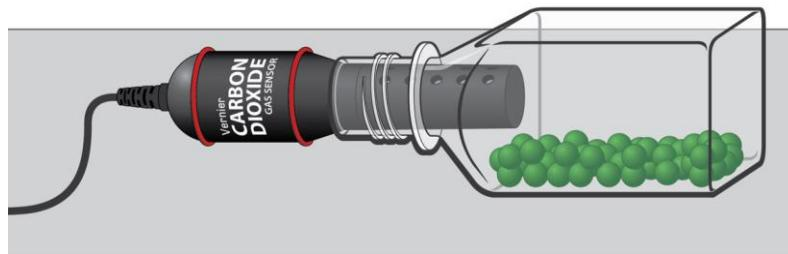

Figure 1
- d. Place the shaft of the CO₂ Gas Sensor in the opening of the respiration chamber and lay flat, as shown in Figure 1.